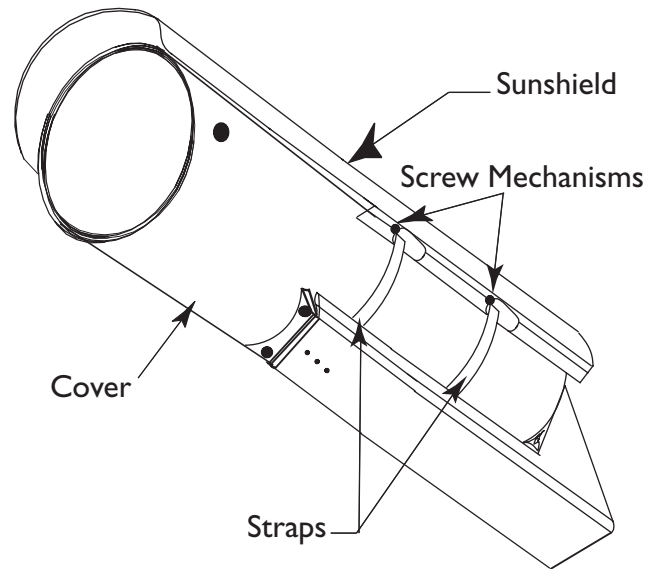

Figure 2 Securing the Sunshield
5. Rotate the straps through the holes in the sunshield. Rotate until the screw head is accessible from the opposite side holes. This will hide the screw mechanism from plain view. See **Figure 2**.